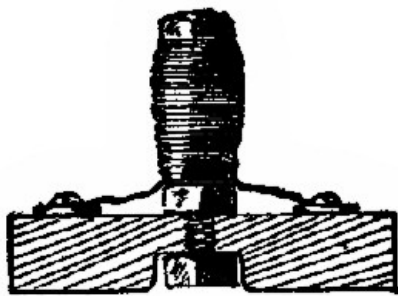
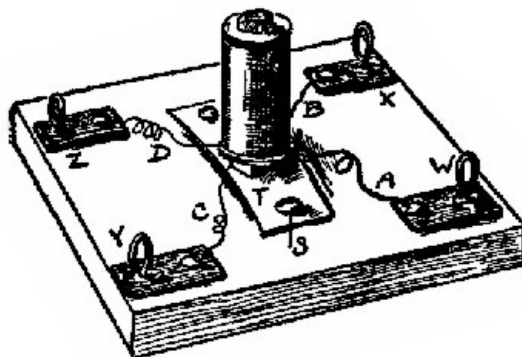

Fig. 61.
Fig. 77.
**116. Electro-Magnet.** Fig. 61. Wind 6 layers of No. 24 or 25 insulated copper wire around a  $\frac{5}{16}$  machine-bolt that is  $2\frac{1}{2}$  in. long. Fig. 61 shows one method of holding the bolt solidly in an upright position, so that magnetic figures can be easily made and the magnet studied. Two nuts are used, the lower one being counter-sunk, so that the base will stand flat upon the table. This bolt is shown without washers (§ 119), and will do fairly well to show the action of electro-magnets. The ends of the wire should always be left 5 or 6 in. long, and be led out to binding-posts. The coil may be held in place, and its turns kept from untwisting by coating it with paraffine. The base may be of any desired size.
**144. Induction Coil.** Fig. 77. If you wish to fasten your coil in an upright position the apparatus will look like Fig. 77. The *base* may be  $5 \times 4 \times \frac{7}{8}$  in. The *binding-posts* are like App. 46. The *coil* is made as explained in App. 96; but to have all the ends of the coils come out at the bottom, as shown, an even number of layers of wire will be necessary. It will be just as well to have an odd number of layers as before, and to bring the wire ends down the side of the coil. The coil is fastened to the base with screws, *S*, passing through a tin strip, *T*, which has a hole punched for the bolt. *T* is squeezed between the regular nut on the bolt and an extra one on the underside of it. See Fig. 61 for suggestion of another method of holding bolts upright. The *connections* should be made with an outside interrupter, battery, and handles, as explained in App. 98.